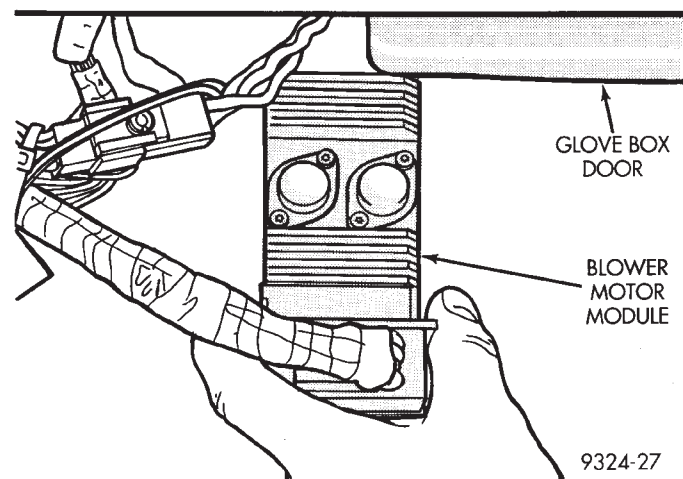

Fig. 5 Blower Motor Module Removal
(1) Remove lower right under panel access cover silence duct.
(2) Disconnect wiring connector on blower motor module.
(3) Remove blower motor module retaining screws.
(4) Pull blower motor module out of heater housing (Fig. 5).